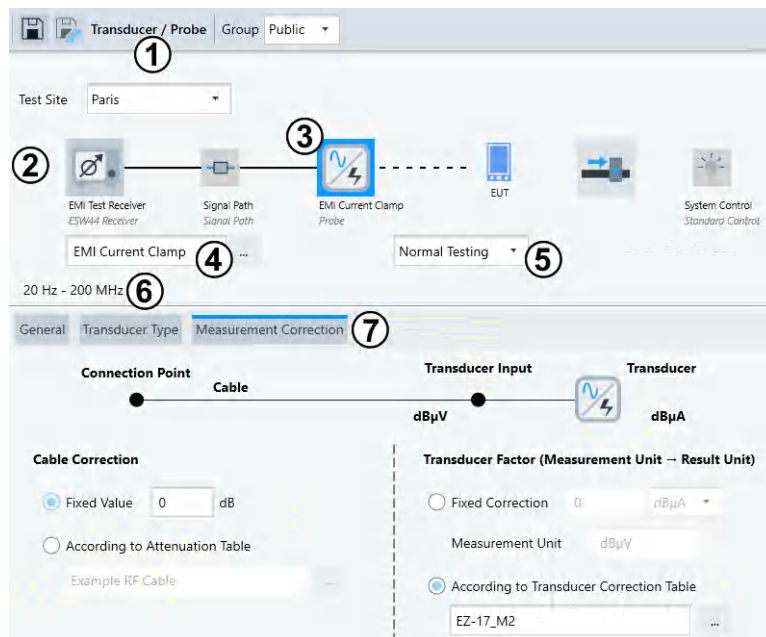

Figure 4-132: Example of an EMI hardware setup dialog (here: Transducer / Probe)
In contrast with hardware setups for EMS tests, you cannot define frequency ranges for EMI hardware setups. Instead, each EMI hardware setup is valid for the full frequency range (labeled (6) in Figure 4-132) that is jointly covered by the referenced devices.
To select a device or a signal path for integrating it into the hardware setup diagram, click its icon. For example, click the transducer icon (labeled (3) in Figure 4-132).